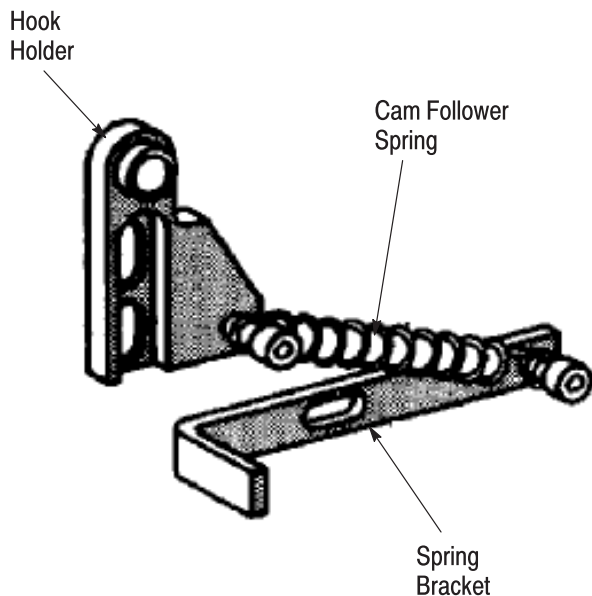

Figure 5
8. Attach the the spring to the shear pick-up hook holder and bracket. See Figure 5.